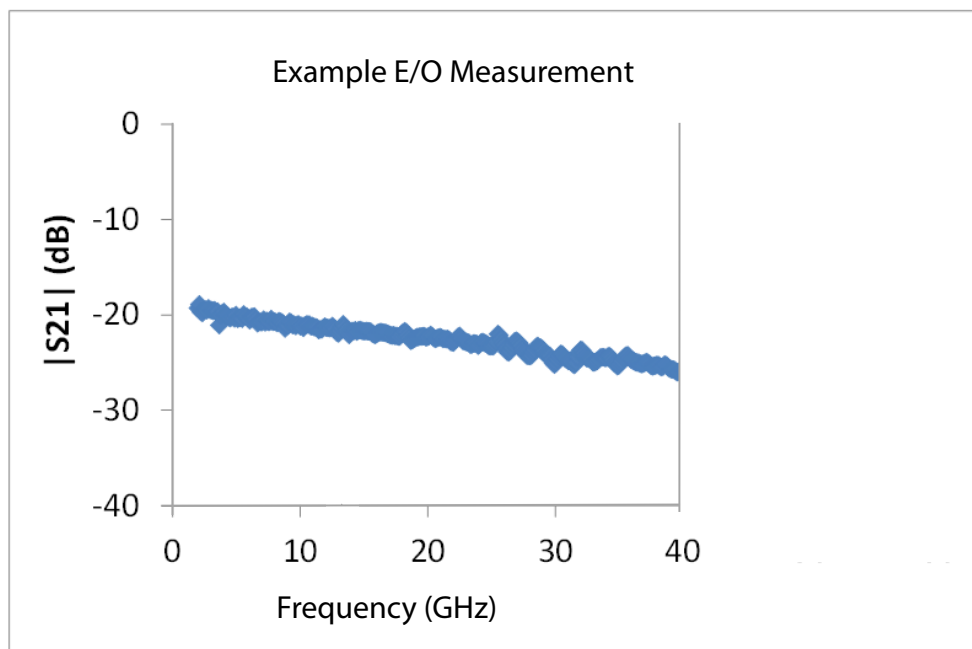

Figure 13-10. The results of an example 2-port E/O measurement are shown here using the procedure discussed in the text.
- The E/O measurement utility is invoked using the default port assignment, loading the .chx setup file and loading the characterization file of the MN4765X. Upon selecting Done on the dialog, the resulting S21 measurement reflects the conversion behavior of the modulator and is shown in Figure 13-10. In this case, there is about 10 dB of roll-off over the bandwidth of the measurement.